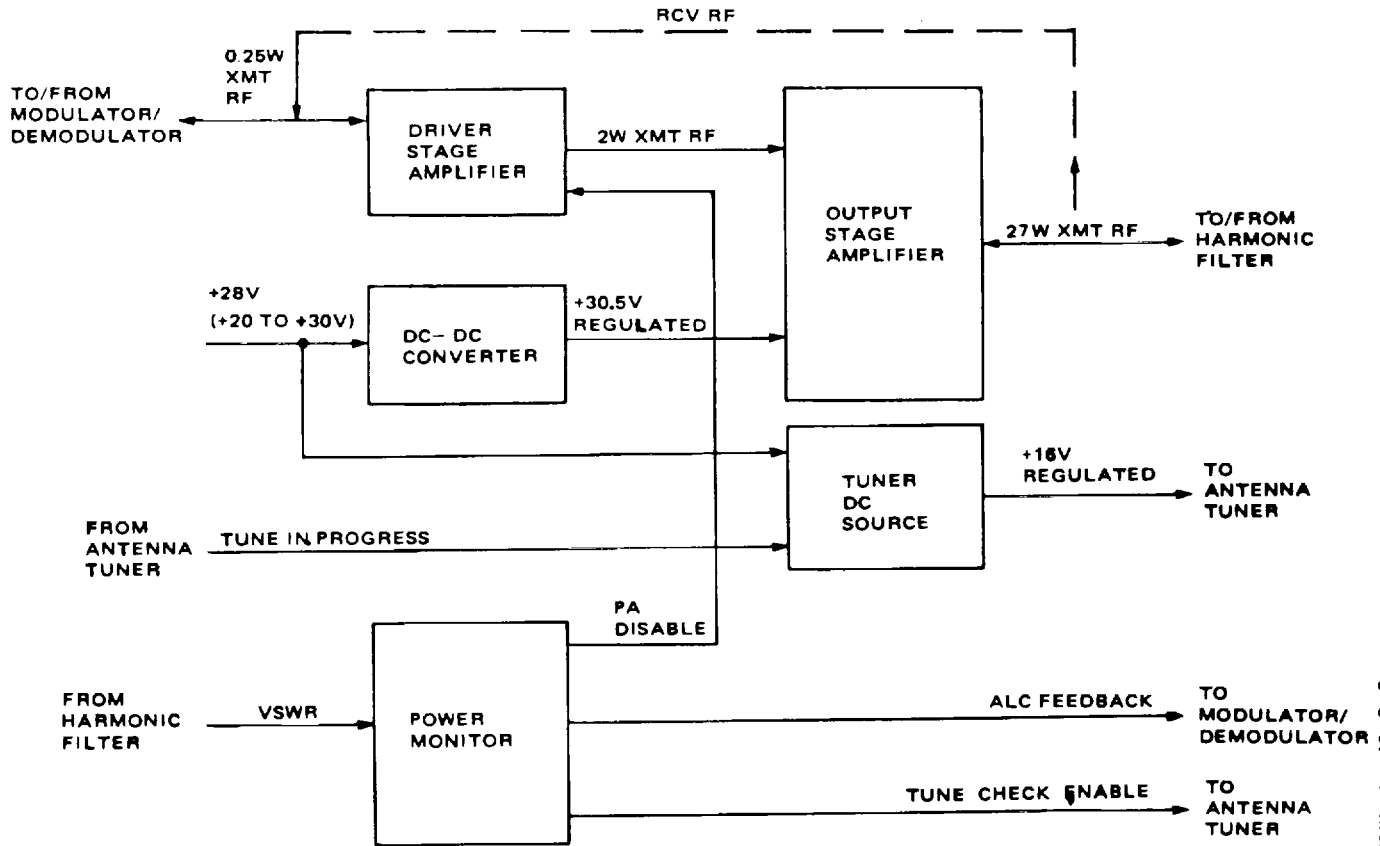

Figure 3-7. Power Amplifier Block Diagram
**3-35 POWER AMPLIFIER (Figure 3-7)** The power amplifier boosts the 0.30-watt output from the modulator/demodulator to provide 20-watt (normal) rf power at the antenna. The Xmt RF is preamplified to 2 watts in the output stage. It is then amplified to about 27 watts in the output stage. (About 7 watts is lost in the filter and antenna tuner.) The DC-DC converter provides the +30.5v Regulated voltage for the output stage. The tuner dc source generates +16v Regulated for use by the antenna tuner during impedance matching. This is triggered by the Tune In Progress signal from the antenna tuner. The tuner dc source compensates for changes in battery voltage and temperature. The power monitor circuits use the vswr signal from the harmonic filter to protect the power amplifier. If the antenna is badly matched to the radio set power reflects back at the power amplifier. This could cause damage. When a poor match occurs, the power monitor disables the driver tuning (Tune Check Enable) and sends ALC Feedback signal to the modulator/demodulator. The ALC controls the rf power output level of the receiver/exciter in transmit operation.